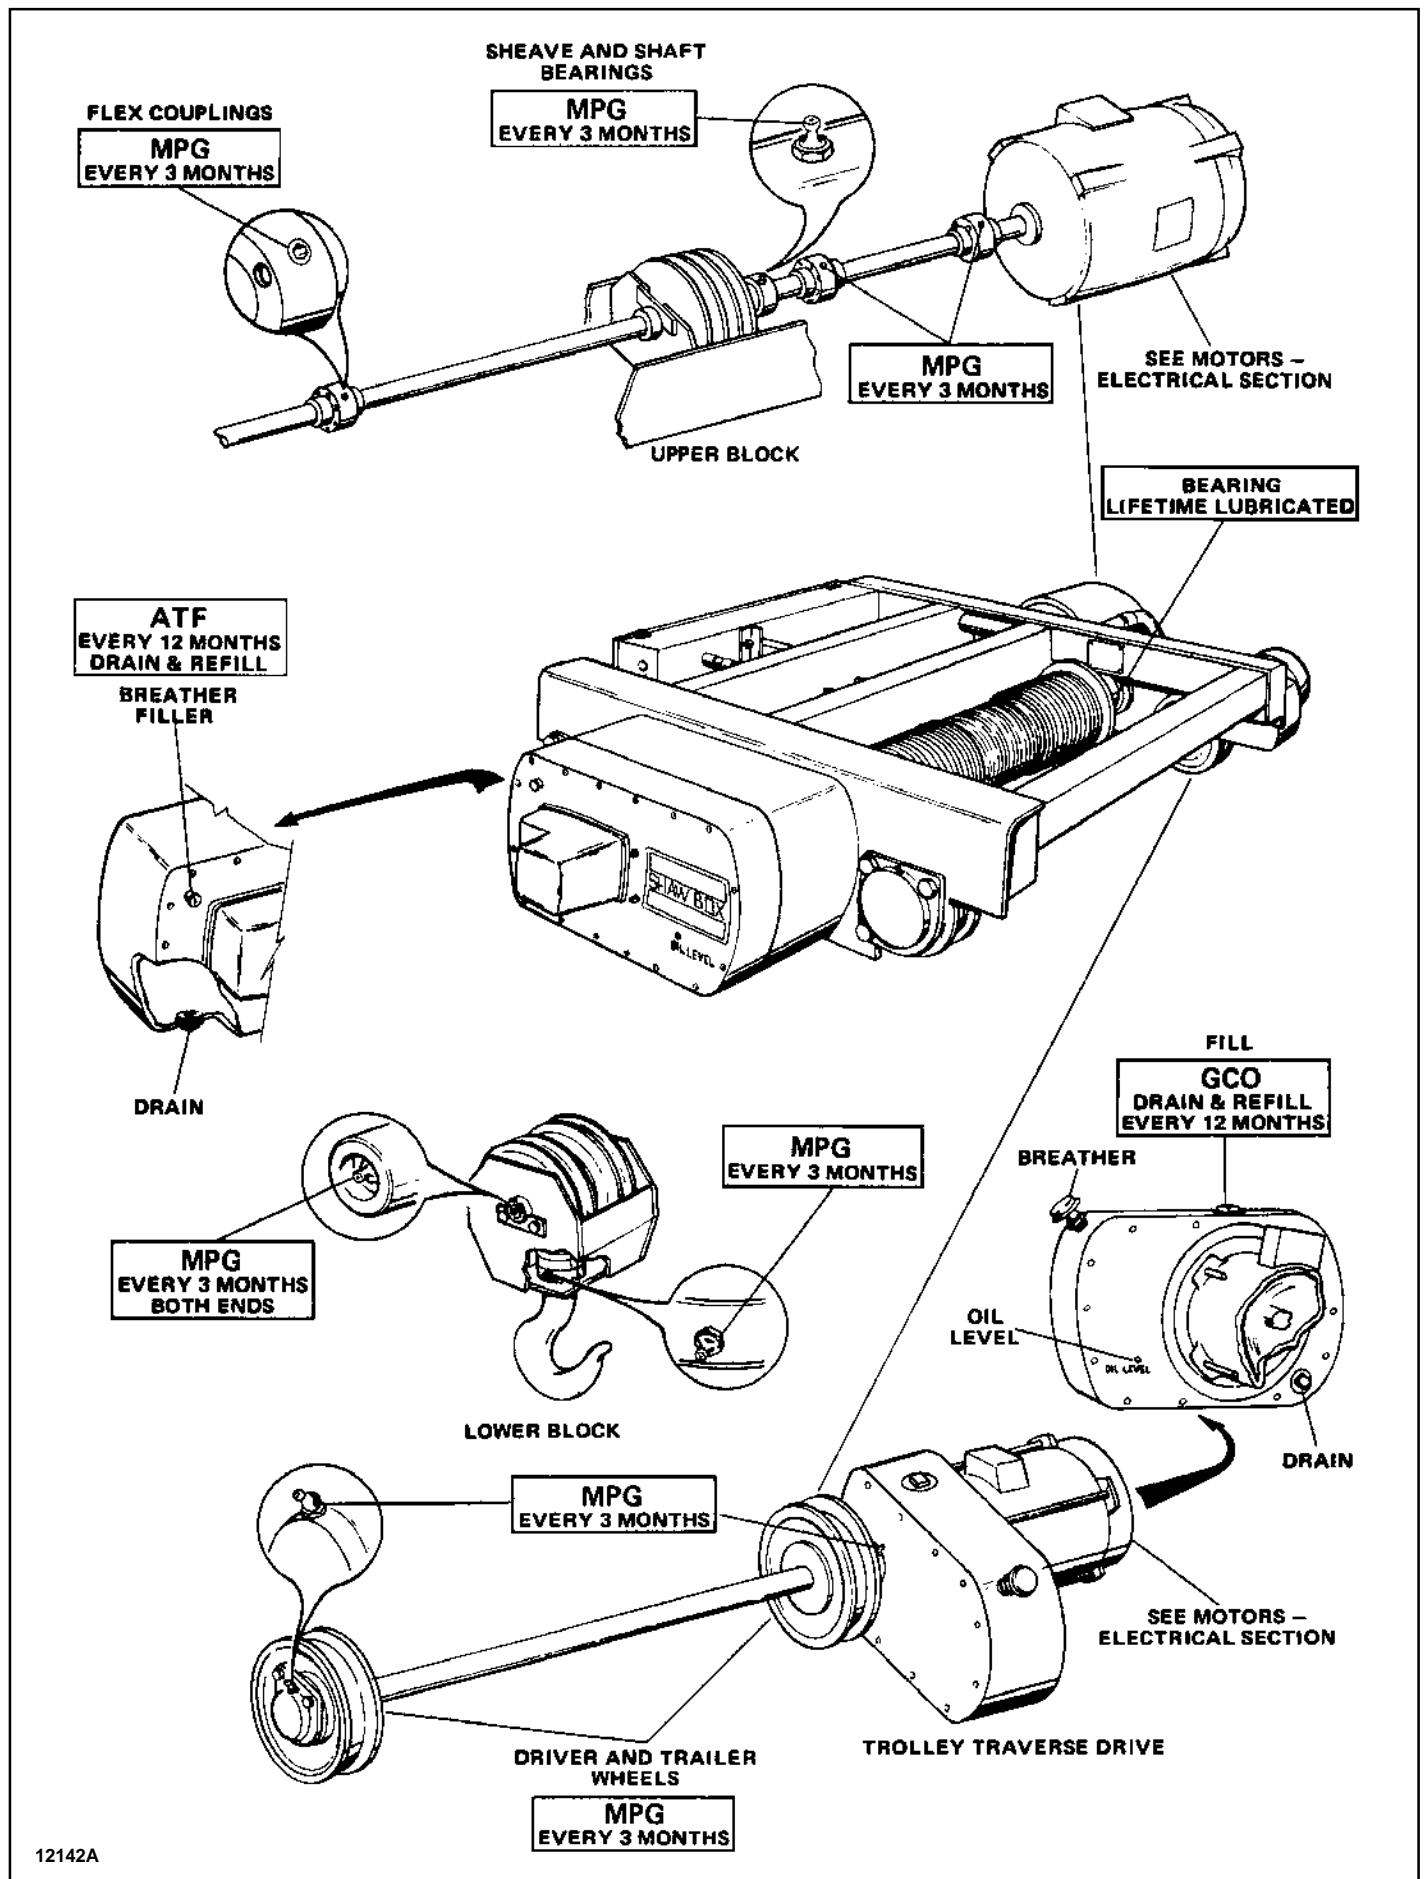

Figure 4-1. Typical Trolley-Hoist Lubrication Chart
Actual size of the component may vary depending on the capacity and design of the hoist and trolley. In so far as practical, the illustrations (Figures 4-1 and 4-2) show a true representative physical shape of the different components. This enables the user to distinguish, for example, a worm type speed reducer from a spur gear speed reducer, each requiring a different lubricant. The proper lubricant and interval of lubrication is coded near each component illustration.
**4-2. LUBRICATION OF TROLLEY AND HOIST.** Figures 4-1 and 4-2 show trolley and hoist general arrangements and major components that require lubrication. The component illustrations represent the actual physical shape of the various components to assist the user to identify the lubricant and interval to be used. Select a component on your trolley or hoist to be lubricated. Turn to Figure 4-1 or 4-2 and find the component illustration representative of the one to be lubricated. Lubricant and interval for each component is shown in a rectangle near the component.
Lubricant recommendations and intervals shown on Figures 4-1 and 4-2 are based on moderate service, as previously defined, in normal environment. Because environmental conditions may vary with each trolley and hoist installation, the user should adjust the lubrication schedule to provide adequate lubrication for existing operating conditions and service. For outdoor installations where seasonal temperature variations or atmospheric environment may cause condensation or other foreign matter to accumulate in the speed reducers, the speed reducers should be drained and flushed and the oil replaced at least every six months. Severe environmental conditions require more frequent lubrication and oil replacement. For unusual conditions consult **Yale•Lift-Tech** Field Service Department for advice.
Figures 4-1 and 4-2 show the recommended lubricant and intervals for standard components. Trolleys may differ from the illustrations, however, the standard components can be identified from the component illustrations which show the lubricant and interval of lubrication. For trolleys having components which were manufactured by others, lubrication requirements are usually furnished with trolley.